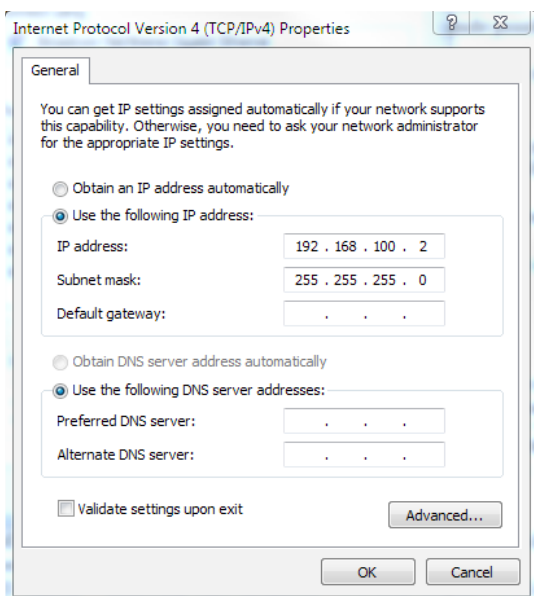

Fig. 2-39, Internet Protocol (TCP/IP) Properties Screen, Windows 7
7. The Internet Protocol (TCP/IP) Properties dialog box will open (Fig. 2-39). Select "Use the following IP address". Enter the values as shown (i.e. IP address 192.168.100.2 and Subnet mask 255.255.255.0). Record the existing IP address and Subnet mask in order to later return the computer to its original state.
Click the **General** menu to access power supply and individual battery voltage values. Important parameters such as current alarm status, inverter status and tamper status can be quickly verified on this page. Additional power supply parameters can be viewed and configured on the power supply page located in the **Advanced Configuration** menu, see Figure 2-39.